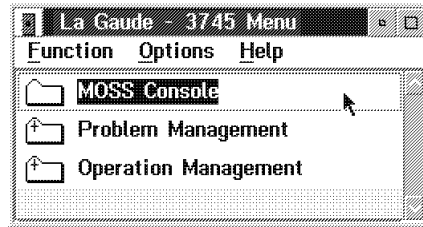

Figure 7-1. 3745 Menu
- c. \_\_\_\_ Double click on **"MOSS Console"**. (see Figure 7-1 on page 7-3)